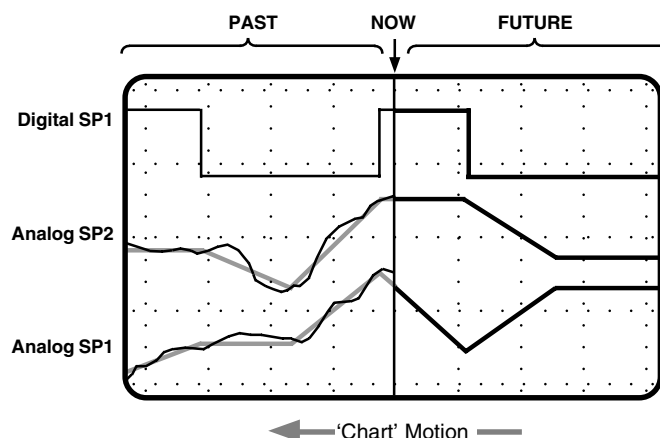

Figure 3-2 Example Instrument 'preplot' display
*Note *(Block type) blockname.field.subfield format, referring to Figure 3-2*
An important function of the GROUP block's *Chan1* to *Chan16* parameters is to organise setpoints for display in the Instrument's preplot view, via DR_ANCHP and DR_DGCHP recorder channel blocks. Figure 3-2 shows a preplot display with one digital and two analogue setpoints.